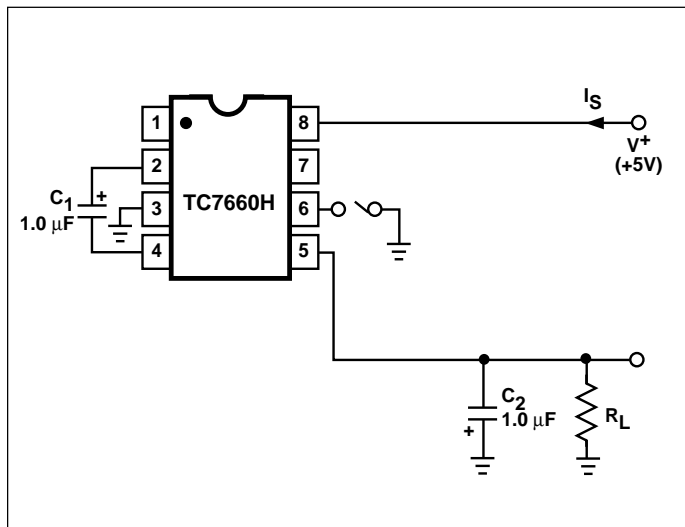

Figure 1. TC7660H Test Circuit
**ELECTRICAL CHARACTERISTICS:** Over Operating Temperature Range with V+ = 5V, C1 = C2 = 1μF, COSC = 0, Test Circuit (Figure 1), unless otherwise indicated.
$V_1$  and  $V_2$  are the voltages on  $C_1$  during the pump and transfer cycles. If the impedances of  $C_1$  and  $C_2$  are relatively high at the pump frequency (refer to Figure 1), compared to the value of  $R_L$ , there will be a substantial difference in voltages  $V_1$  and  $V_2$ . Therefore, it is not only desirable to make  $C_2$  as large as possible to eliminate output voltage ripple, but also to employ a correspondingly large value for  $C_1$  in order to achieve maximum efficiency of operation.
### TYPICAL PERFORMANCE CHARACTERISTICS (Circuit of Figure 1)